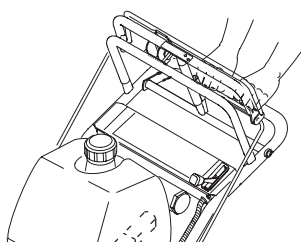

Figure 19
4. At the same time engage lower control bar and lift up on handle (Fig. 19 and 20).